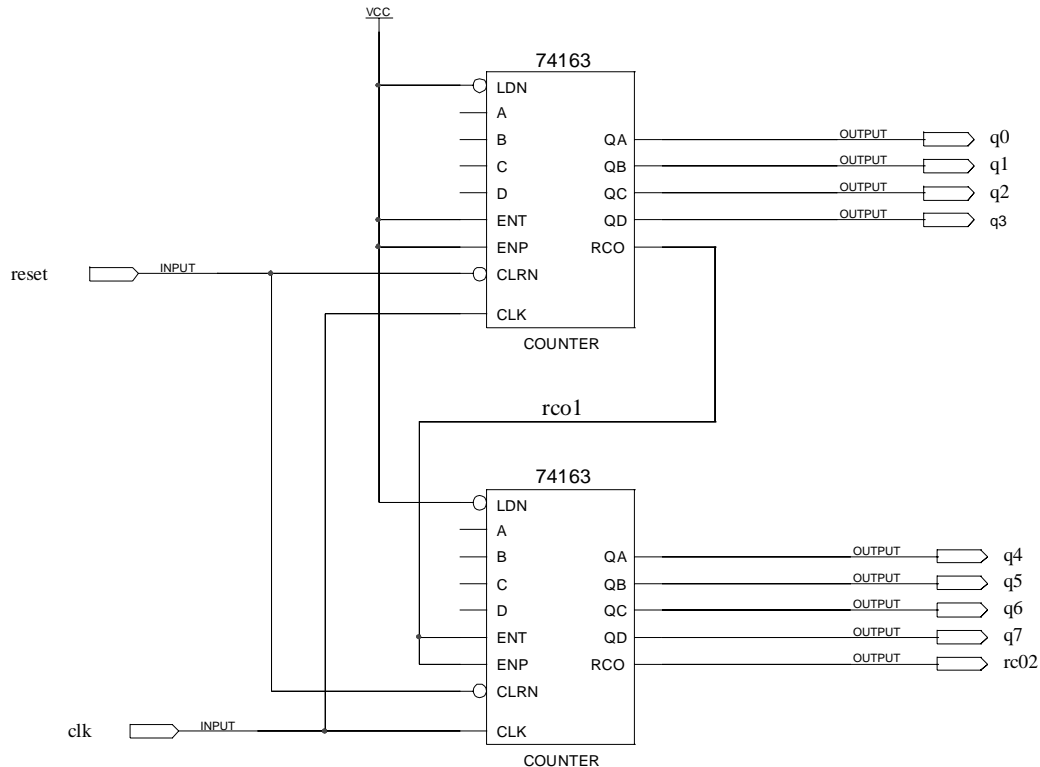

FIGURE 1. Simple 8-bit Counter
- Wire the two 74163 components into an 8-bit counter circuit as shown in Figure 1.
- Place **input** and **output** components on the schematic as shown in Figure 1.
- Label the RCO output which connects to the ENT and ENP inputs of the other 74163 component as "rco1" as shown in Figure 1. We want to label this internal net so that we can view a trace of this signal during simulation.
- Label the input and output pins by double-clicking the LMB on PIN\_NAME and typing the name for each pin as shown in Figure 1.